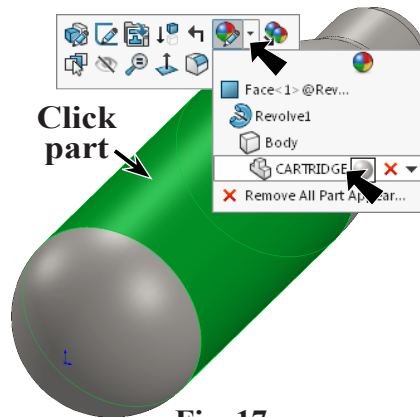

Fig. 17
Step 1. Click the part, expand **Appearance Callout**  on the context toolbar and click **CARTRIDGE** , Fig. 17.